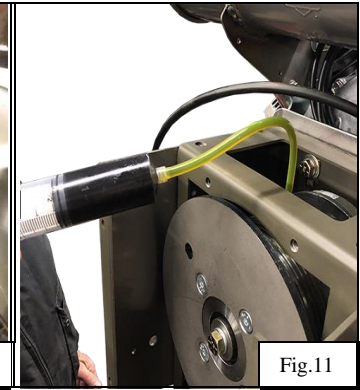
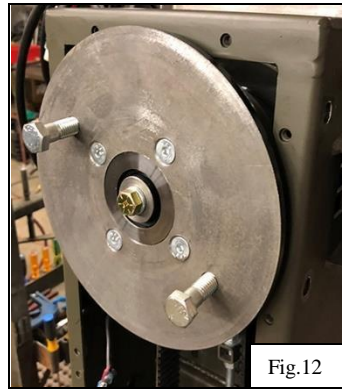

Fig.11
Fig.12
11. Slide the Field Assembly off of the crankshaft. **(Fig 10)** Make sure not to lose the clutch spacer behind the Field Assembly marked with an arrow in **(Fig. 11)**
11. Remove a fill/drain plug from the transmission and rotate the hole to 12 o'clock. **(Fig. 10)** Fill the transmission with 1-1/2 oz of Mobil 1 4T 10W-40 Racing Oil using a syringe with a hose. **(Fig. 11)** (syringe is provided with each engine when shipped) Reinstall the fill/drain plug. Install the brake disc using the four 5/16" socket head screws using a 3/16" hex socket with Blue Loctite and the two 1/2' bolts and large screwdriver to hold disc. Torque the socket head bolts to 200-inch lbs. or 16.6-foot lbs. **(Fig. 12)**